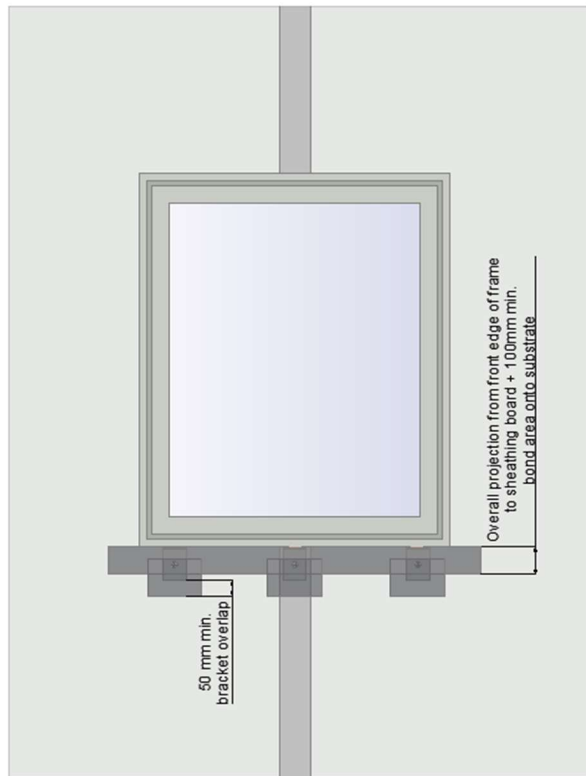

Figure 6.
- Alternatively, the membrane width can be calculated to accommodate a 100 mm min. width between the brackets only, with cut patches of membrane applied over the brackets protruding underneath the membrane. The membrane patches shall overlap on to the membrane and substrate by 50 mm min. (Figure 6).